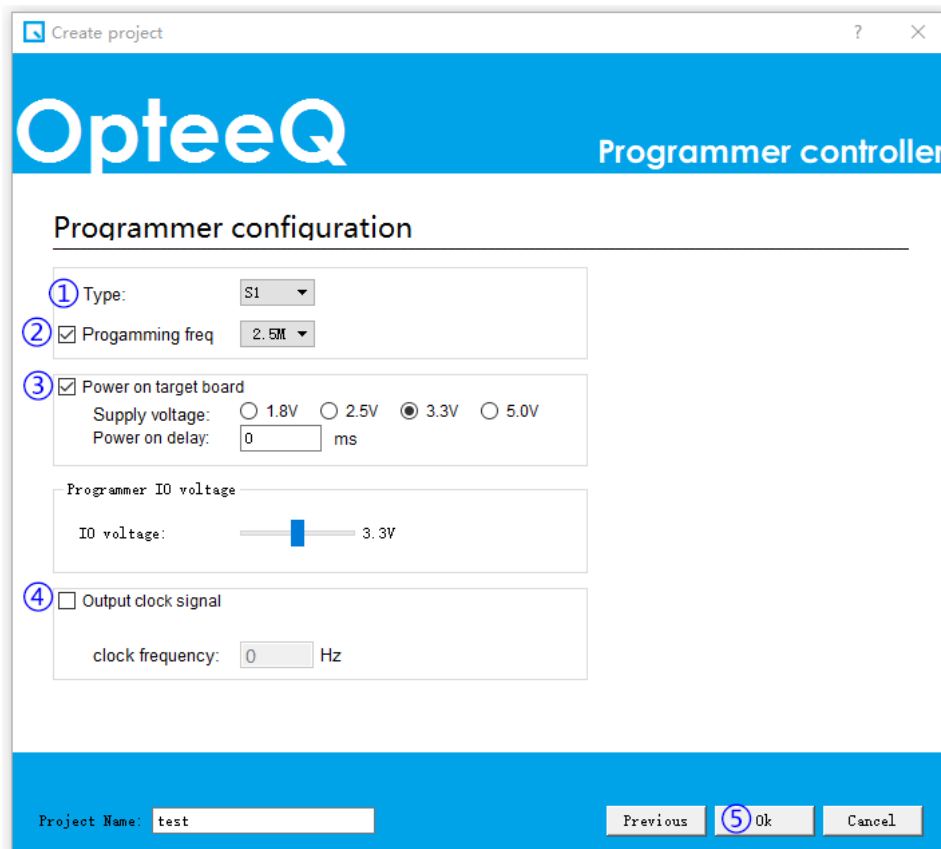

Figure 4.14: Step 4 - Project Creation Interface
4)Step 4: Configure the programmer (as shown in Figure 4.14).
Select the programmer model (as shown in Figure 4.14-①).
Check the programming rate of the programmer (default: 2.5 MHz) (as shown in Figure 4.14-②). Notes: In general, the value set does not exceed 5M as a high value may affect the stability of the signal.
To supply power to the target board, it is needed to check the check box before "Power Supply to the Target Board" (as shown in Figure 4.14-③). Notes: S1 programmer can only supply power to the target board at 3.3V. When the programmer does not supply power to the target board, please do not check the check box before "Power Supply to the Target Board".
The item in Figure 4.14-④ is unchecked as it is not used yet.
Finally, click "OK" (as shown in Figure 4.14-⑤) to start creating a project.